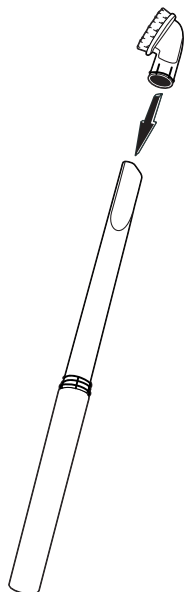

FIG. 10
Step 1: To use accessories, place desired accessory into the end of the hose or wand (FIG.10).